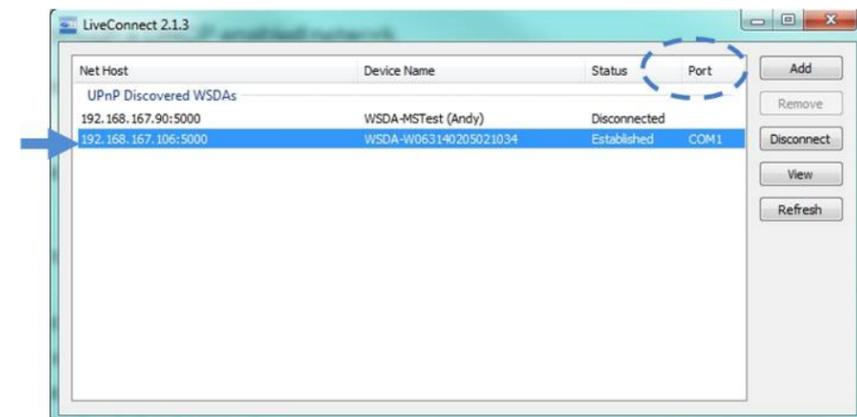

Figure 8 - Virtual Serial Port
2. Once connected, a virtual serial port is assigned to the gateway and will appear in the Port column (*Figure 8 - Virtual Serial Port*).